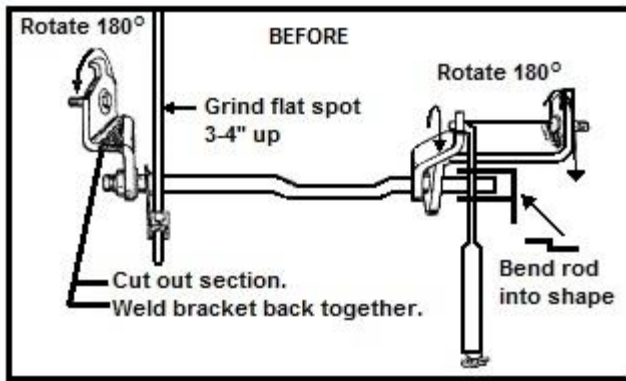

Figure 1
See Figures 1 & 2 for transmission shift linkage modification.
1. Cut wedge from bracket that bolts to the frame (See Figure 1).